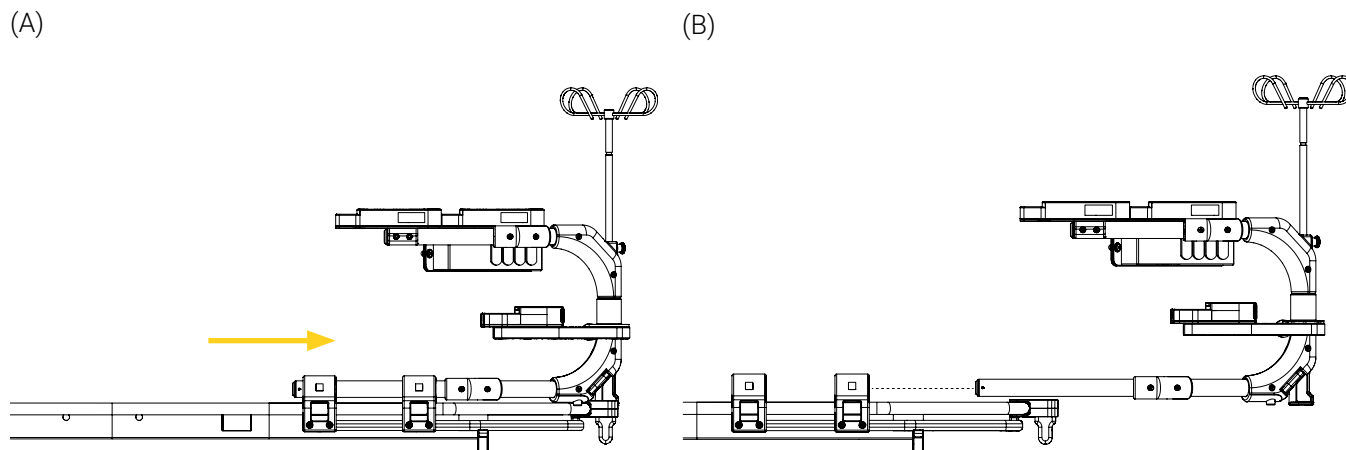

Figure 9: Removing the mobile structure from the cot support structure
4. Pull out the mobile structure from the cot support structure (Figure 9) using a safe lifting technique Refer to the « Safety Measures » on page 12 and to your established protocols if needed.